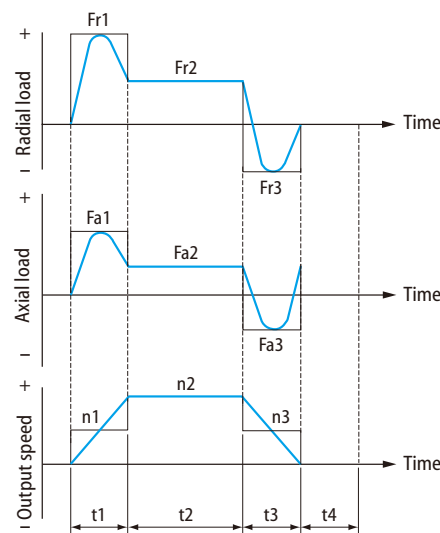

Fig. 6 Example of Load Fluctuation
*: *Refer to Fig. 6.
Fig. 6 shows the load of each period in the specific operation pattern.